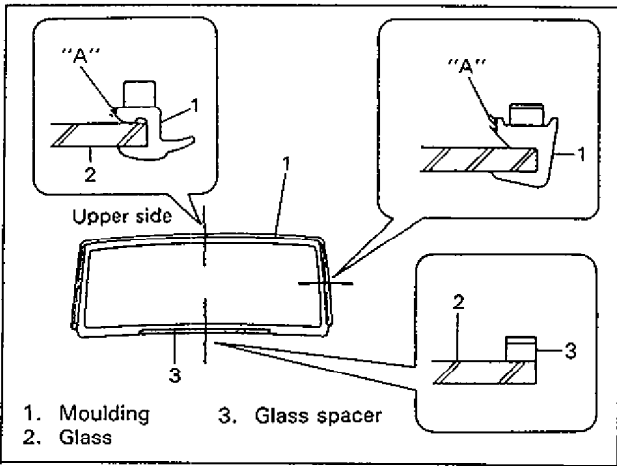

Fig. 9-34
- 10) Using new brush, apply sufficient amount of primer for moulding (Urethane) to surface "A" as shown in Fig. 9-34.